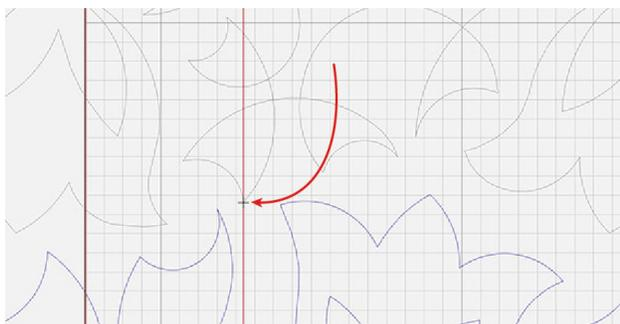

Fig. 63
3.  Click the Realign Safe Area icon, and then select Set under Set Guide Line. A vertical red line appears (Fig. 63) to aid in identifying where